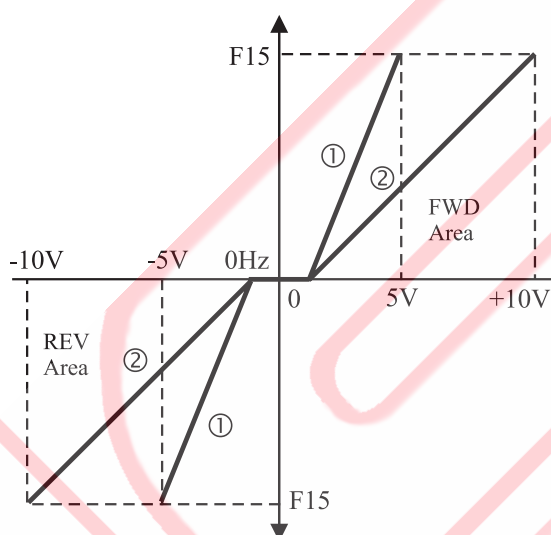
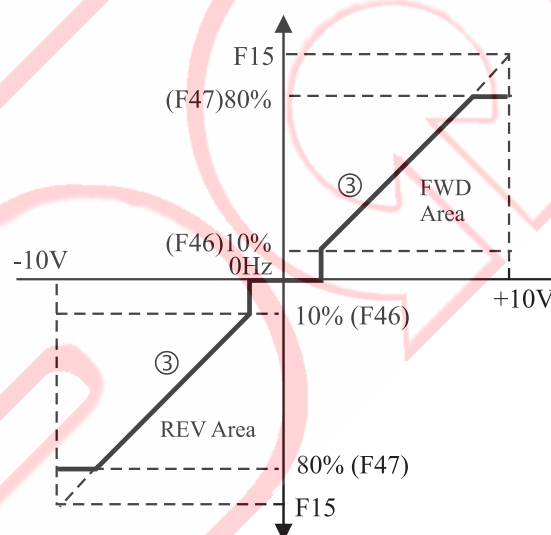

Fig. 1
Fig. 2
| | Curve ① Fig. 1 | Curve ② Fig. 1 | Curve ③ Fig. 2 |